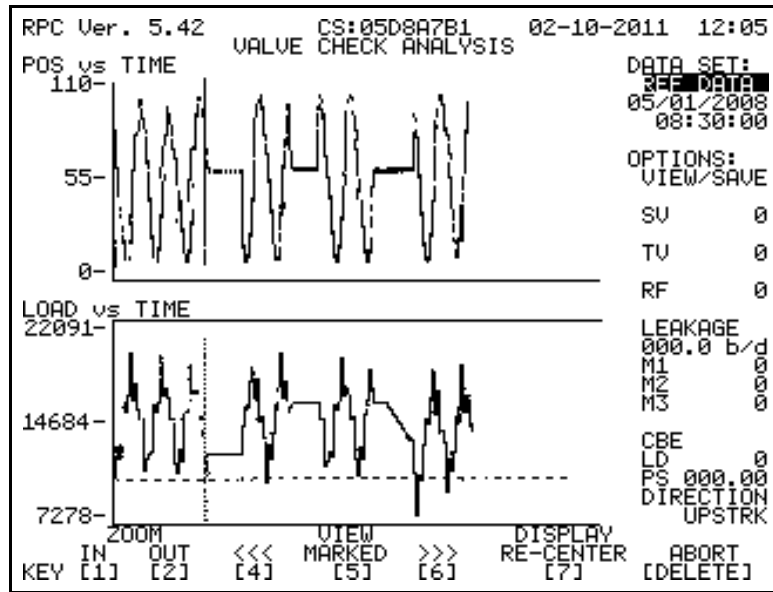

Figure B-4. Toolbar Active in Valve Analysis Screen
2. Press <1> to expand the x-axis of the display. A screen similar to Figure B-4 displays. Notice that the crosshairs indicate the load/time coordinates on the load trace.
2. Press <1> to expand the x-axis of the display. A screen similar to Figure B-4 displays. Notice the crosshairs that indicate the load/time coordinates on the load trace.
2. Press <1> to expand the x-axis of the display. A screen similar to Figure B-4 (page B-11) displays with a horizontal dashed line added at the marked standing valve load level. Notice that the crosshairs indicate the load/time coordinates on the load trace. The cross hairs are positioned at the end of the load trace, since the marking of RF is usually the last procedure performed during the data gathering session.
2. Press <1> to expand the x-axis of the display. A screen similar to Figure B-4 (page B-11) displays. Notice that the crosshairs indicate the load/time coordinates on the load trace.
2. Press <1> to expand the x-axis of the display. A screen similar to Figure B-4 (page B-11) displays with a horizontal dashed line added at the marked standing valve load level. Notice that the crosshairs indicate the load/time coordinates on the load trace.